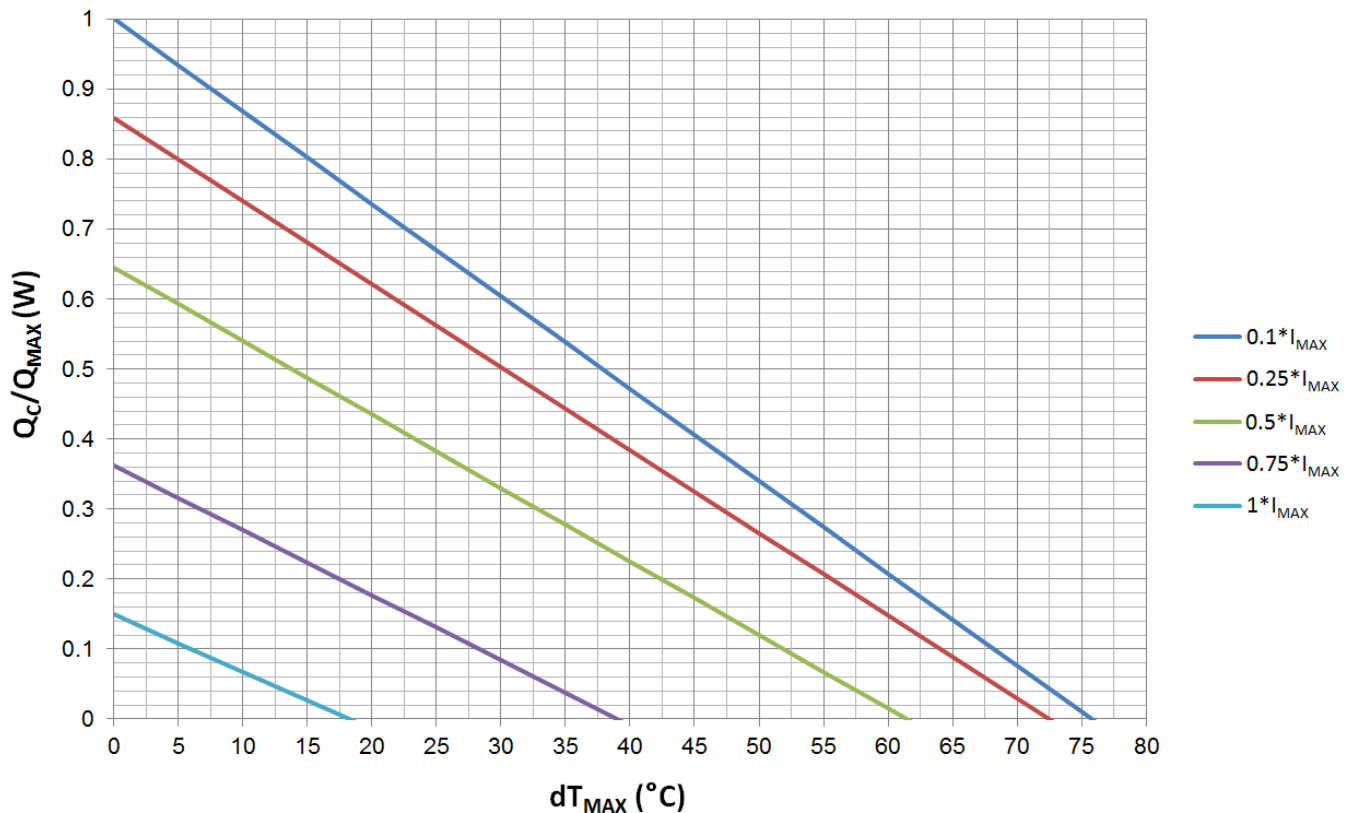
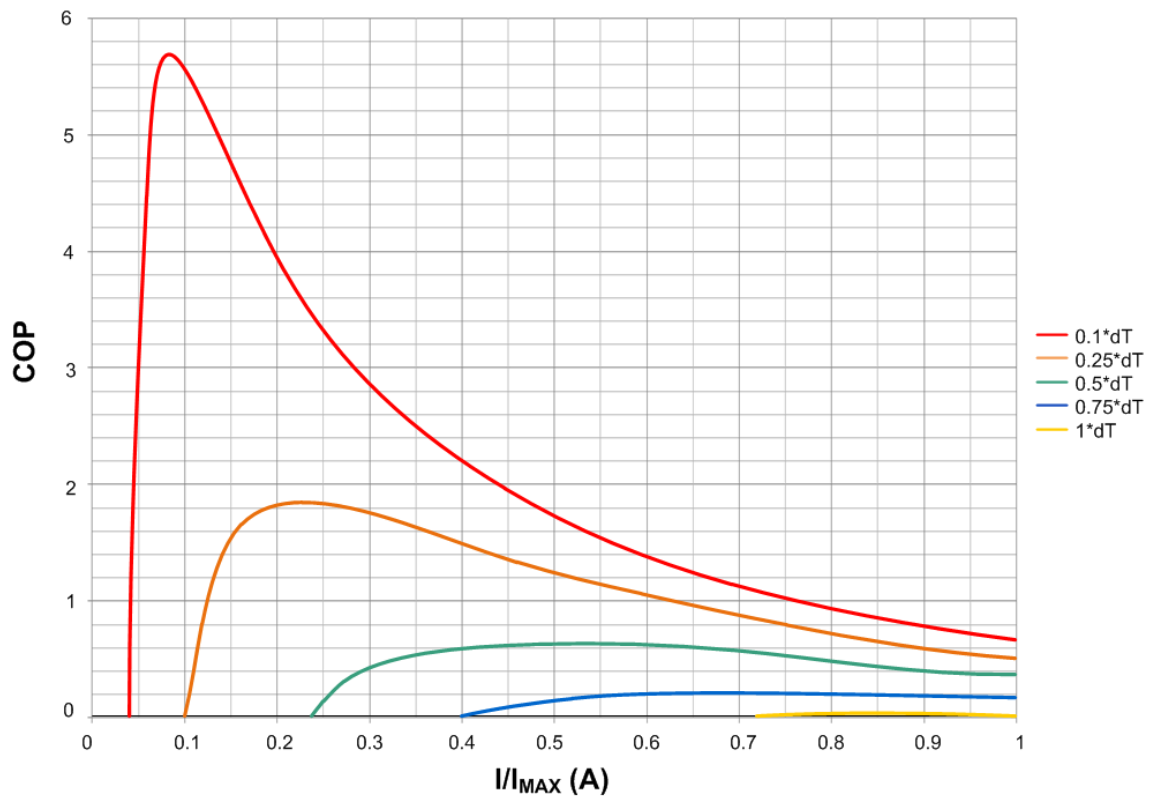
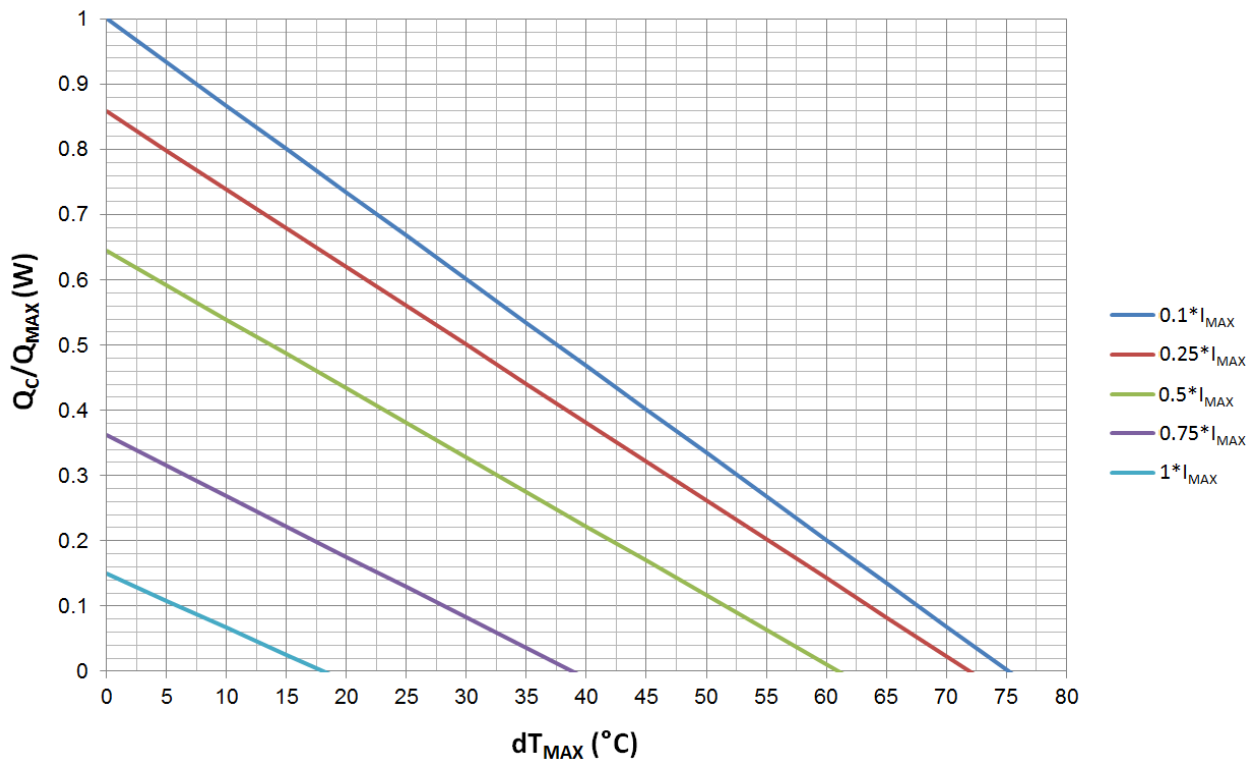
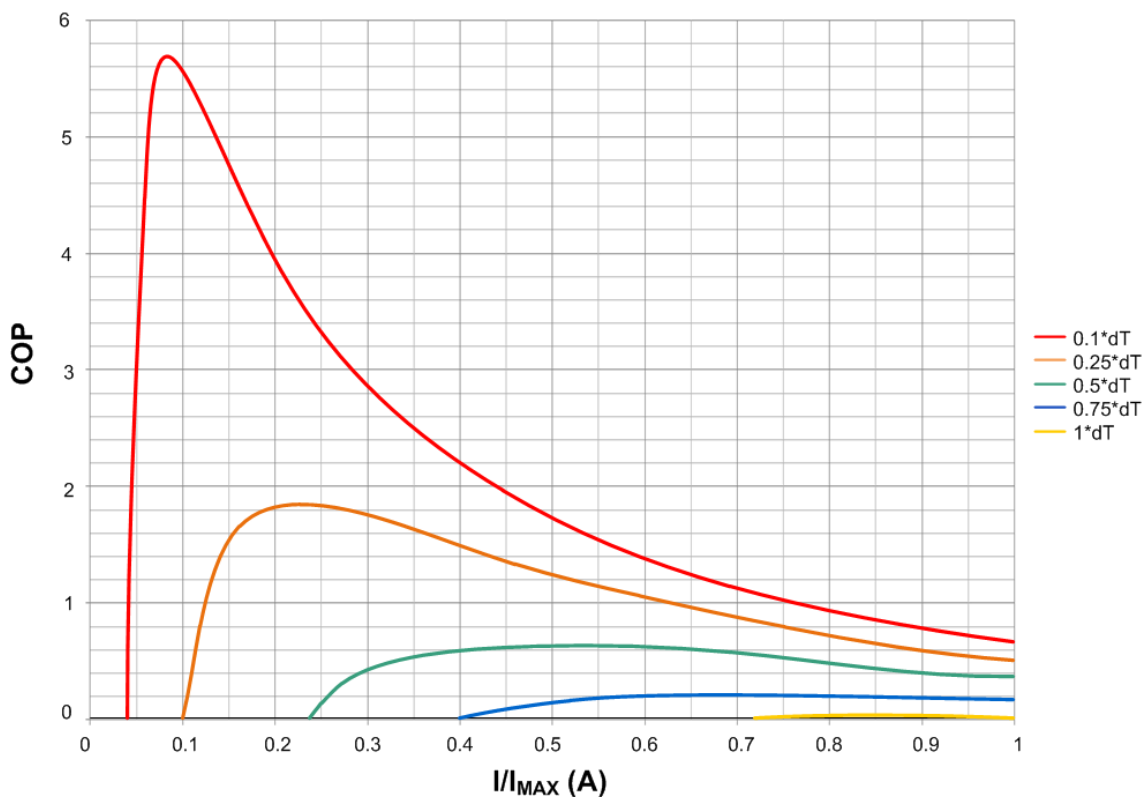

Figure 2.  $Q_c/Q_{MAX}$  vs.  $dT_{MAX}$
Figure 5. COP vs.  $I/I_{MAX}$
Figure 6.  $Q_C/Q_{MAX}$  vs.  $dT_{MAX}$
Figure 9. COP vs.  $I/I_{MAX}$
5. Use the charts provided in Figure 2 to Figure 5 and Figure 6 to Figure 9, to decide which TEC to use, what is the heat needed to be dumped through the heat sink, what is the heat sink temperature, etc.